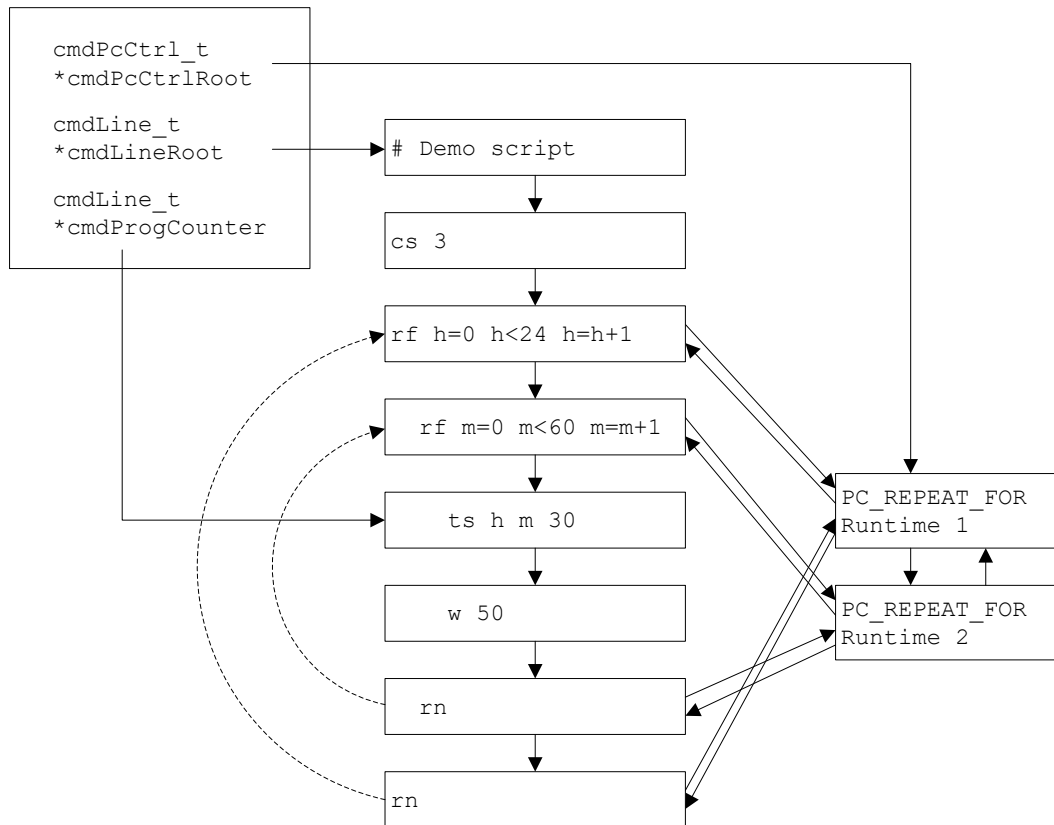

Figure 11: Creating and executing an mchron command list
Using the demo script of the first method as an example, upon entering the 'e' (execute) command the following will take place as depicted in figure 11 below.
- In `doExecFile()`, via function `cmdStackPush()`, function `cmdListFileLoad()` is called to load the file contents into linked list structures as depicted in figure 11 above. Part of loading the file is matching each line with its associated command dictionary entry. Also, the integrity of the command list is checked by matching each 'rf' command with an 'rn' command. When an unknown command is encountered or repeat commands cannot be matched, file loading will abort.